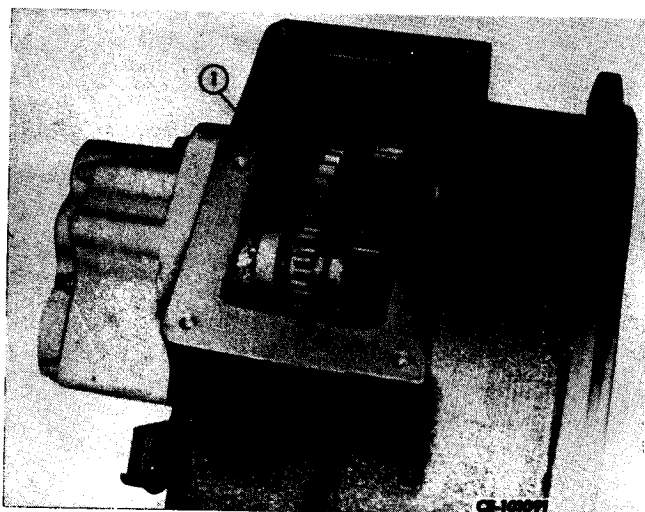

Figure 3-28
Position converter housing (3, Fig. 3-28) on its side and remove nut (2) and pump drive gear (1) from pump shaft.